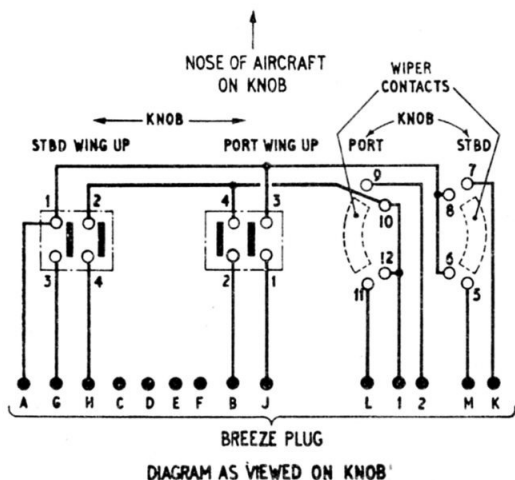
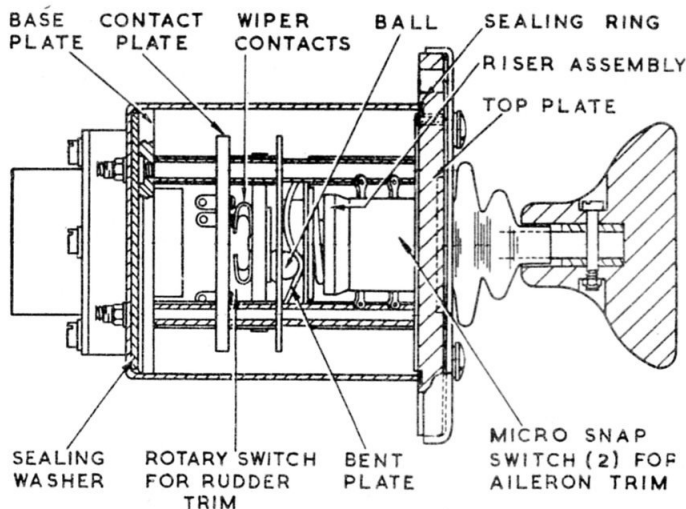

Fig. 2. Internal wiring diagram
Fig. 3. Sectional view of trim switch
4. Internal electrical connections of the switch are brought out to a Breeze plug secured to the end of the switch. A wiring diagram (fig. 2) illustrates the relative positions of the internal switches when the trim switch is viewed with the nose of the aircraft on the control knob pointing upwards.
5. Two micro snap switches (fig. 3) are fitted in the trim switch for operating the aileron. The snap switches are secured to the top plate of the trim switch, one each side of the control shaft. An operating plate is attached to the control shaft and this contacts the toggles of the snap switches. When the control knob is pushed sideways, the operating plate pushes the toggle over and closes the switch.
7. A rotary switch assembly (fig. 3) is used for operating the rudder. This consists of stud contacts in a plate fixed to the distance tubes inside the trim switch, and wiper contacts attached to the end of the control shaft. Rotary movement of the control knob turns the wiper contacts to engage with the stud contacts. With reference to fig. 2, anti-clockwise movement closes contacts 7 and 8, and 11 and 12; clockwise movement closes contacts 5 and 6, and 9 and 10.